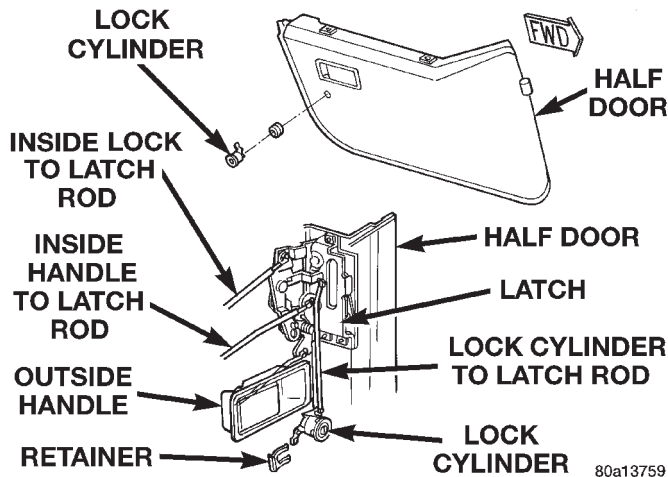
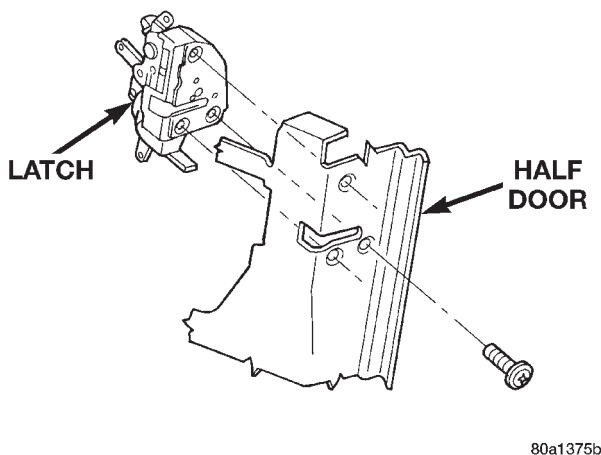

Fig. 36 Half Door Latch Rods
Fig. 37 Door Latch
- (1) Remove trim panel.
- (2) Peel back the waterdam.
- (3) Disconnect lock cylinder to latch rod (Fig. 36).
- (4) Remove lock cylinder retaining clip.
- (5) Remove the lock cylinder from the door.
- (2) Disconnect the lock cylinder to latch rod (Fig. 36).
- (3) Disconnect the lock knob to latch rod.
- (4) Disconnect the outside handle to latch rod.
- (5) Using a trim stick or equivalent, pry back the door weatherstrip at the latch to access the screw attaching the latch to the door.
- (6) Remove the screws attaching the latch to the door (Fig. 37).
- (7) Lower the latch in the door and disconnect the inside handle to latch rod.
- (8) Remove the latch from the door.
- (1) Position the latch in the door.
- (2) Connect the inside handle to latch rod.
- (3) Install the screws attaching the latch to the door.
(4) Position the door weatherstrip in place, apply adhesive as necessary.
(5) Connect the outside handle to latch rod.
(6) Connect the lock knob to latch rod.
(7) Connect the lock cylinder to latch rod (Fig. 36).
(8) Install trim panel.